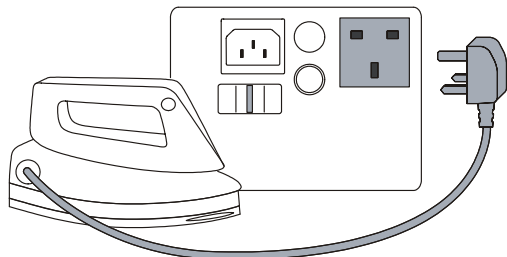

Figure 8. Load/Leakage Connections
- 1  Connect the appliance and the test lead as indicated on the tester, see also Figure 8.